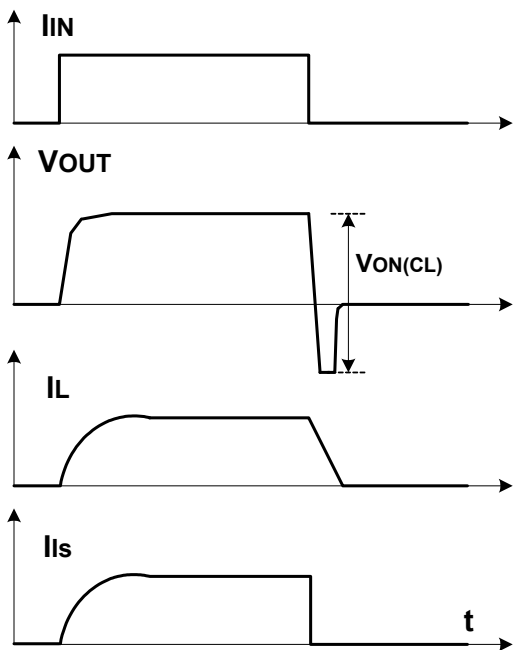

Figure 2b. Switching an inductive load
15) See also Figure 2b on page 14.